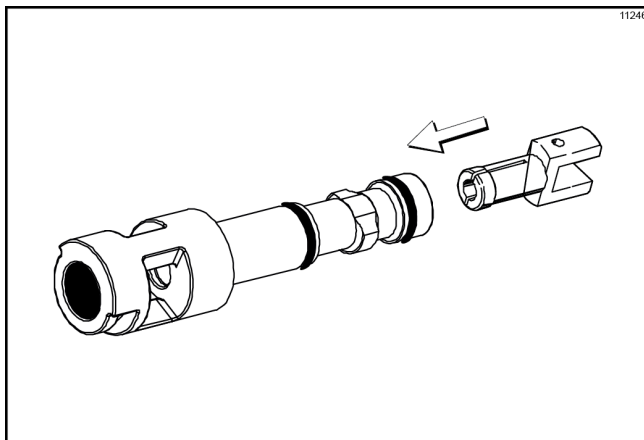

Figure-119
10. Squeezing the split end together, insert the driven spinner through the metal opening of the draw valve until it snaps into place. (See Figure-119.)